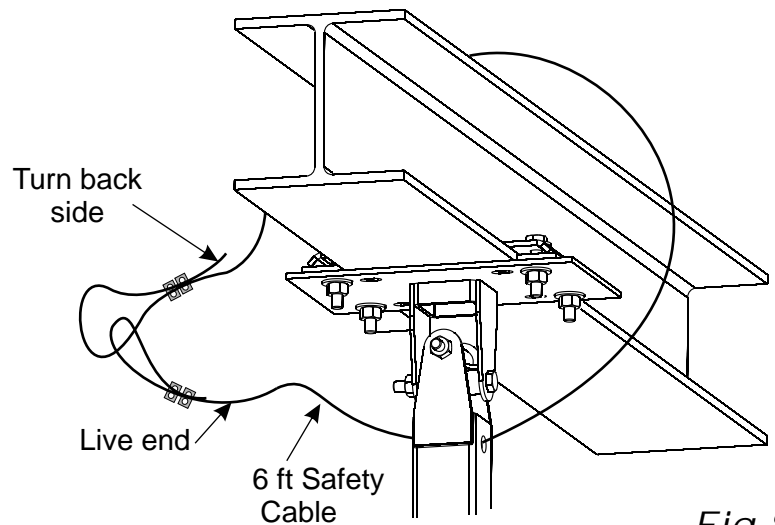

Fig. 8
• How to install the standard mount (Fig.8)
2. Insert the bolts, washers and tighten the nylocks (Fig.8).
3. Position the safety cable as per Fig.8, loop at both ends.